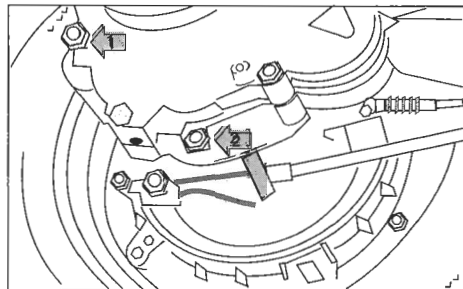

Fig. 30
**CHANGING OIL IN GEAR CASE:** Drain off the crank case by unscrewing the drain plug '2' (fig. 30). Then introduce a small quantity of oil to flush case, run the engine for few minutes and drain off again. Next, put 8.5 oz (250 ml) of new 2T motor oil in gear box up to level of filling hole by removing level plug '1' The engine should be warm when the oil is changed.